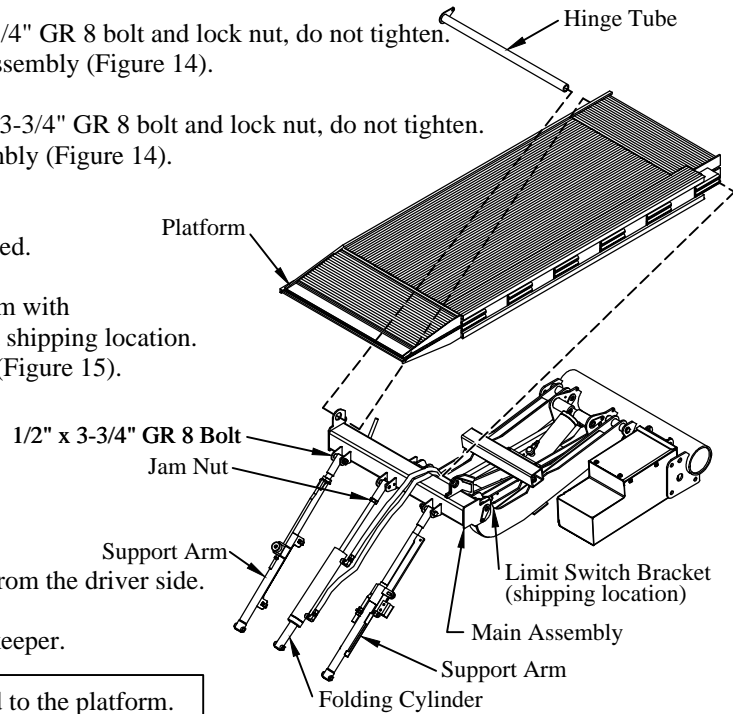
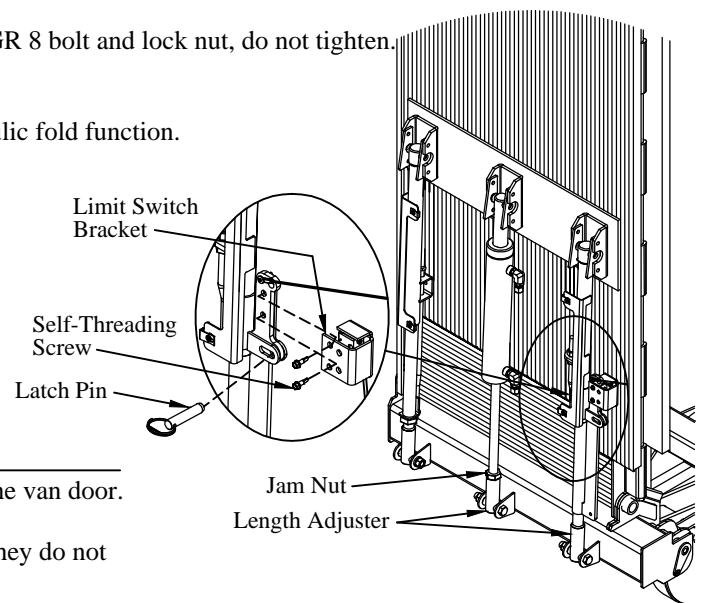

Figure 14: Platform parts location.
Figure 15: Platform latch and adjustment.
- 1. Install** the support arms on the main assembly, using a 1/2"x3-3/4" GR 8 bolt and lock nut, do not tighten. The threaded end of the support arm goes toward the main assembly (Figure 14).
- 2. Install** the folding cylinder on the main assembly, using a 1/2"x3-3/4" GR 8 bolt and lock nut, do not tighten. The threaded end of the cylinder goes toward the main assembly (Figure 14).
- 4. Install** the limit switch bracket on the passenger side support arm with two (2) #12 self-threading screws. See Figure 14 for bracket shipping location. Make sure that the limit switch is not in the pushed position (Figure 15).
- 3. Support** the platform to keep it from falling or hitting the van in the next steps (Figure 15).